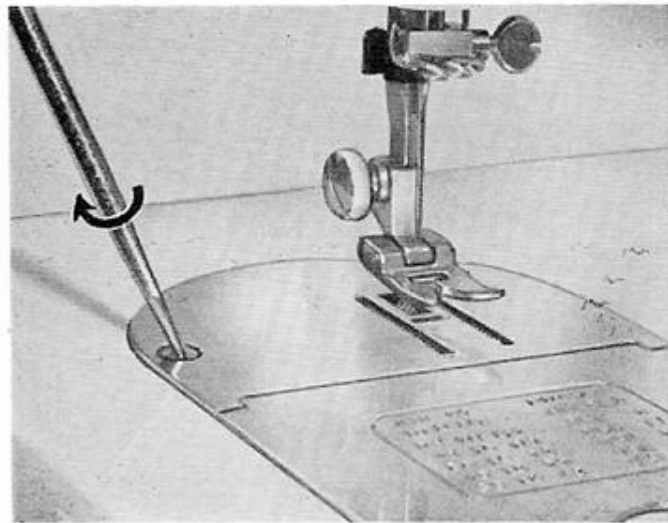

Fig. 21
- (a) Open the bobbin case cover and replace the ordinary needle plate with that for straight sewing while raising the needle bar and the presser foot to their highest point. (Fig. 21)